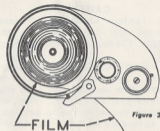

Figure 2
1. Lift the Light Trap (2) from the Case (1).
2. Unwrap the bulk film and place it on the spindle (6) in the Case so that it unrolls anti-clockwise when viewed from the top (See Figure 2).
4. Replace the Light Trap Knob on the Supply Spindle (6) over the Light Trap.